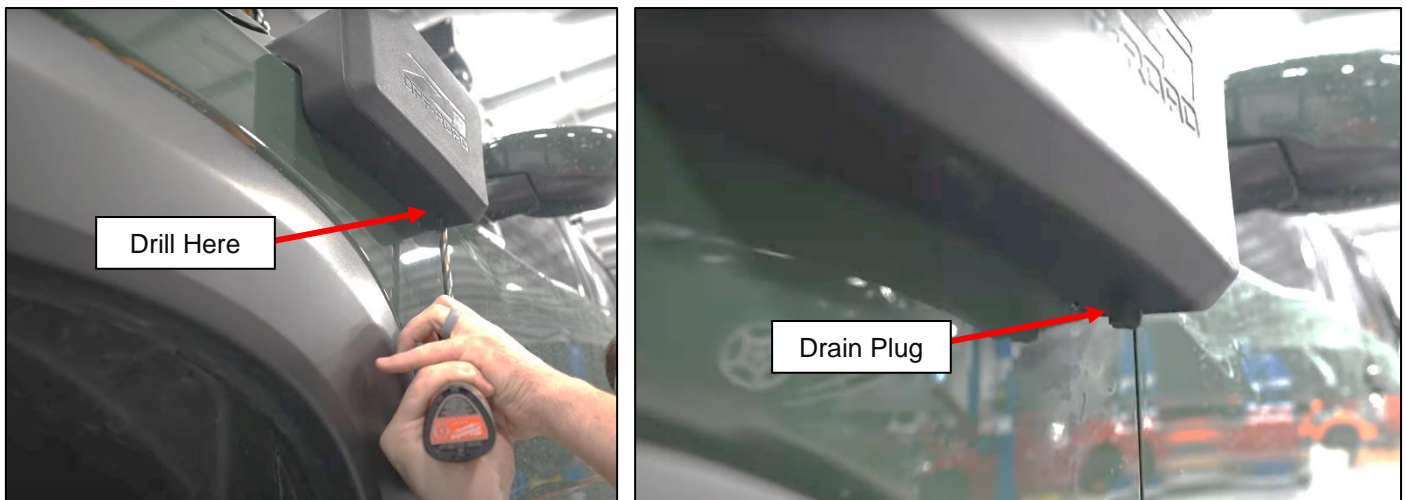

Figure 21
36. Adjust and tighten the (3) three Band Clamps on the Fender Pipe Assembly.
39. This Step is optional if you want a Weep Hole or Drain Plug on your Z1 Snorkel. Drill a 3/8" Hole in the bottom of the Snorkel. Once drilled, insert the supplied Drain Plug in the new hole, or it can be left open as a Weep Hole. If you don't want a Drain Plug, skip to *Step 40*. *Figure 21.*